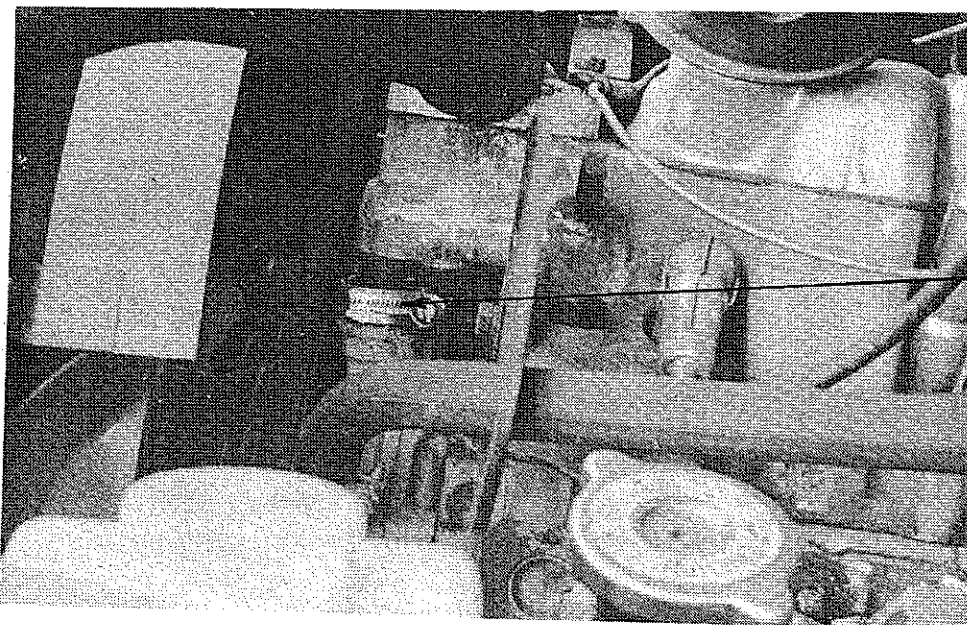

FIG 1 -- HOSE CLIP IN POSITION
2. To carry out the interim repair refer to Fig 1 and proceed as follows: